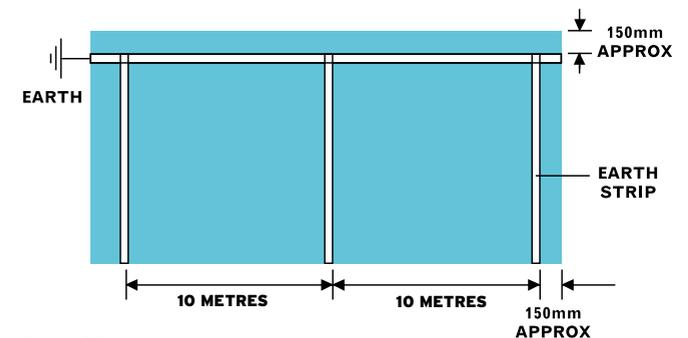

Figure 2 Earthing strip layout
- > The earth strip is laid 150mm from one side of the room, in the same direction as the vinyl sheets are to be laid. This strip is connected to a known earth (Fig 2).